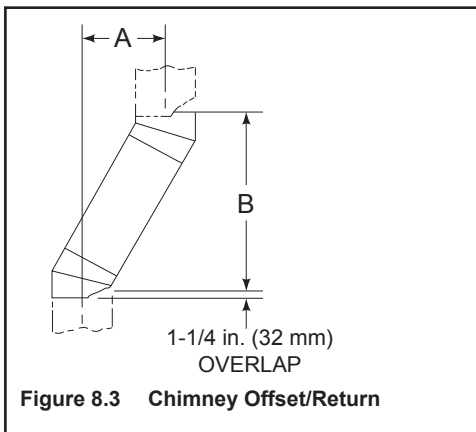

Figure 8.3 Chimney Offset/Return
- Measure the shift needed to avoid the overhead obstruction. Refer to dimension A in Figure 8.3.
Your "A" dimension from Figure 8.3 is 14 1/2 in. (368 mm). Using Table 8.2 the dimension closest to, but not less than 14 1/2 in. (368 mm) is 14 1/2 in. (368 mm) using a 30° offset/return.